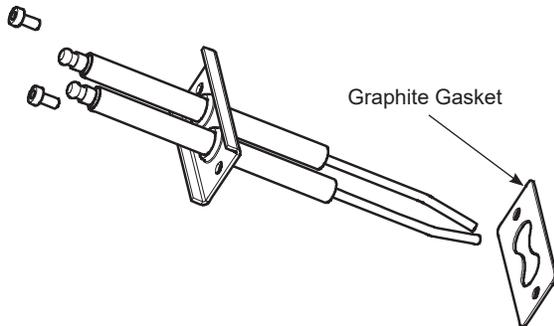

Figure 34: Igniter Electrode Assembly
- e. Install igniter as shown in Figure 34.